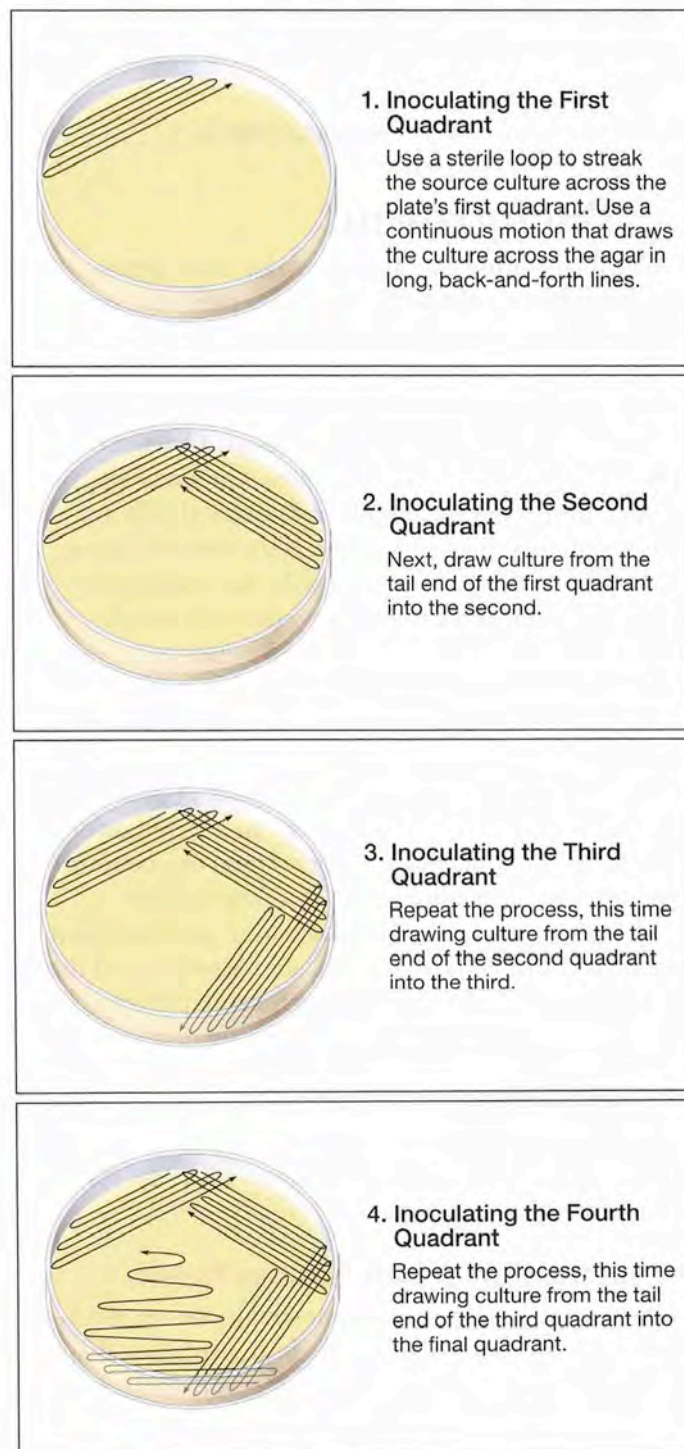
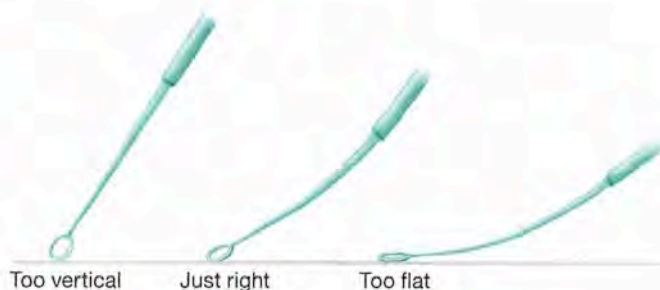

FIGURE 4.3 Performing a Quadrant Streak Pattern •
FIGURE 4.4 Proper Loop Angle and Pressure •
3. **Inoculate the First Quadrant:** Starting at the edge of the plate, lightly drag the loop back and forth across the agar surface's first quadrant (Fig. 4.3). Be careful not to cut the agar surface. The loop should contact the agar with slight pressure at an angle like that shown in Figure 4.4.
5. **Inoculate the Second Quadrant:** The culture for this quadrant will come from the first quadrant. You do not go back into the source culture. Gently drag your sterile, cooled loop across the tail end of the first streak pattern and into the second quadrant as shown in Figure 4.3.
7. **Inoculate the Third Quadrant:** Repeat the streaking process, this time drag the loop across the tail end of the second quadrant and into the third section (Fig. 4.3).
9. **Inoculate the Fourth Quadrant:** Repeat the streaking process, but this time, drag the loop across the tail end of the third quadrant and into the fourth (Fig. 4.3).